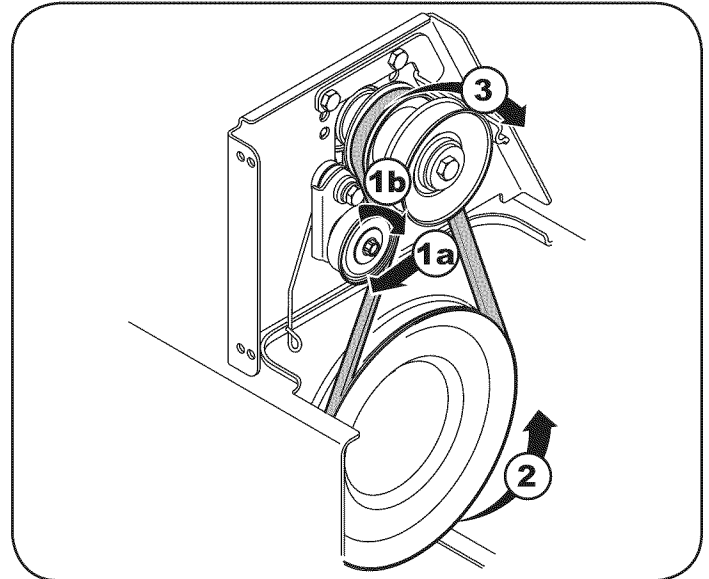

Figure 35
1. Pull the idler pulley away from the backside of the drive belt to relieve the tension. See (1a) in Figure 35.
2. Slip the drive belt off the idler pulley. Carefully release the idler pulley. See (1b) in Figure 35.
3. Roll the drive belt off the lower drive pulley. See (2) in Figure 35.
4. Remove the belt from the engine pulley. See (3) in Figure 35.